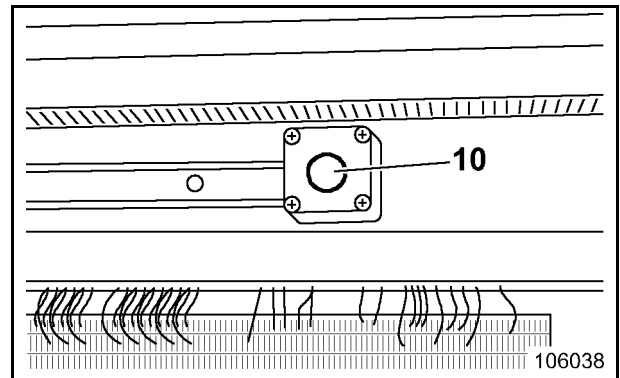

Fig. 2-56:
- ➔ Switch on battery main switch (120, Fig. 2-56:)